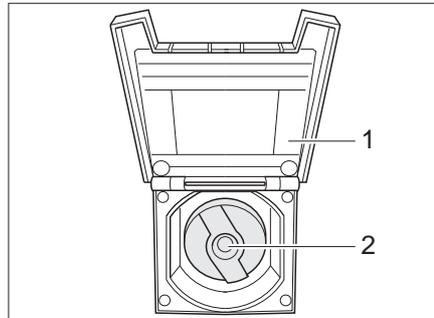

Fig. 152 Cap for the drinking water filler neck
- Open the cover flap (Fig. 152,1) of the drinking water filler neck.
- Insert the key into the locking cylinder (Fig. 152,2) and turn a quarter turn anticlockwise.
- Close the cover flap (Fig. 152,1).
- Open the drinking water filler neck (Fig. 152).